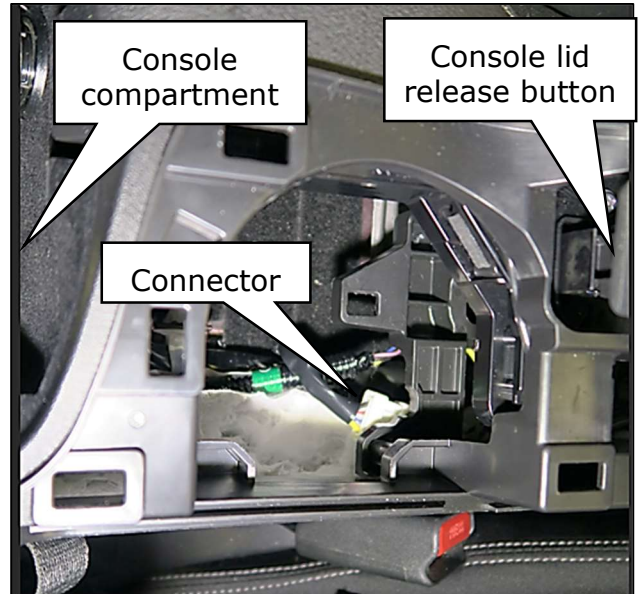

Figure 19
18. Disconnect the console electrical connector shown in Figure 19.